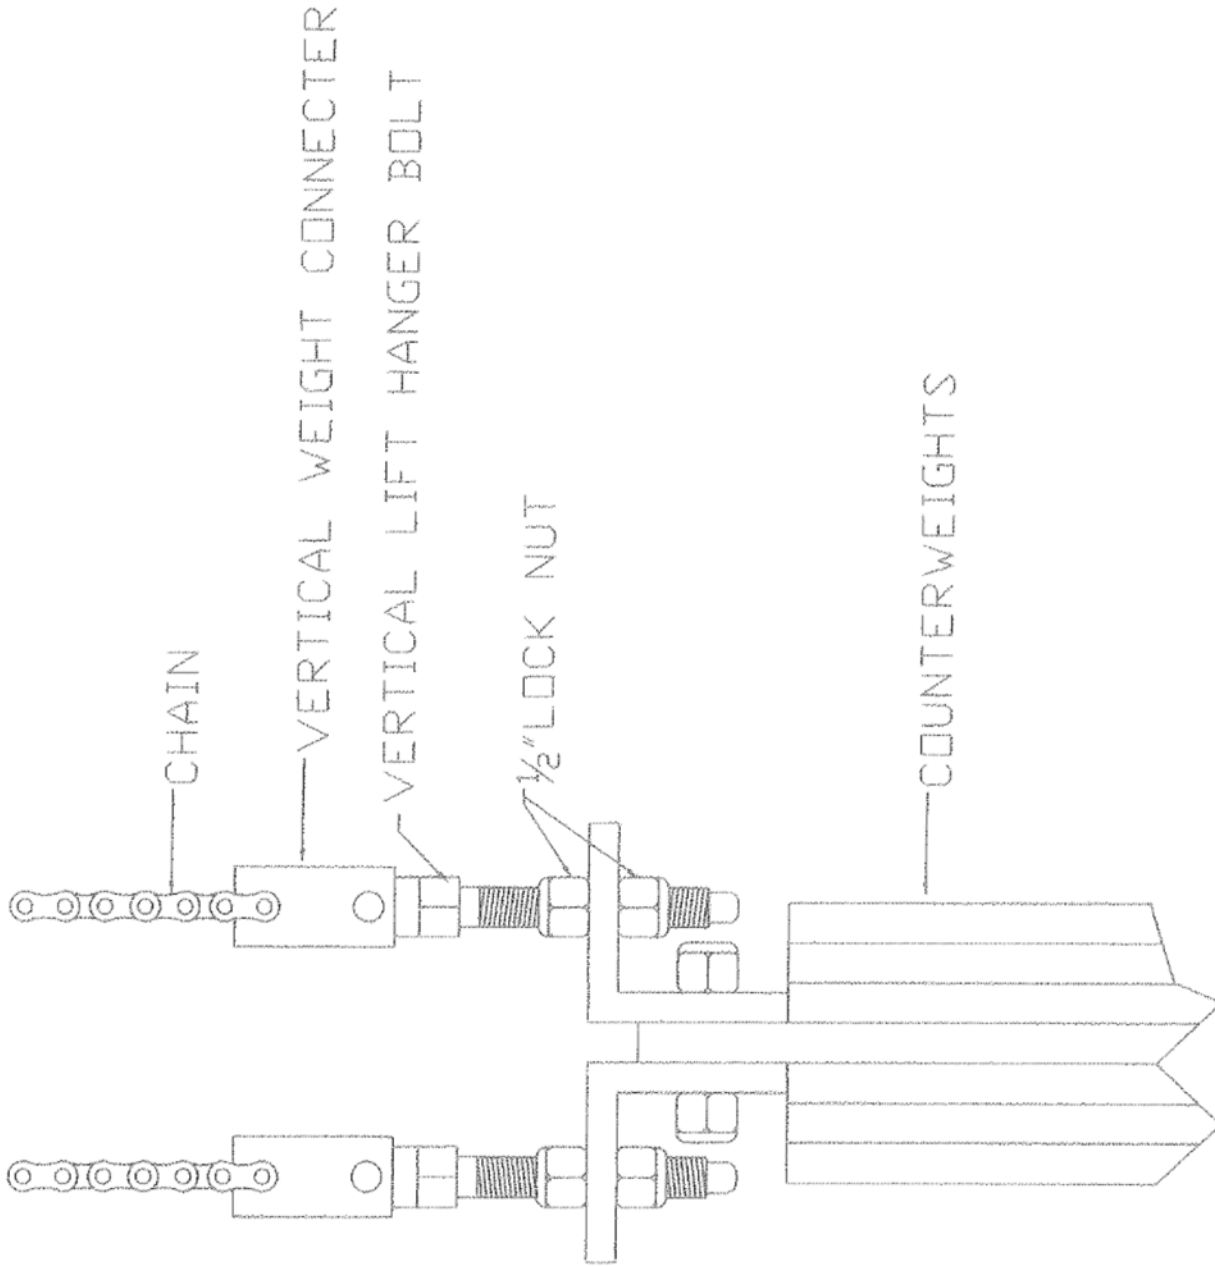

FIG. 5
14. Attach the chains to the vertical weight connectors located on the center mounting section (see Fig. 5).
CHAIN ATTACHMENT GUIDE (Fig. 5)